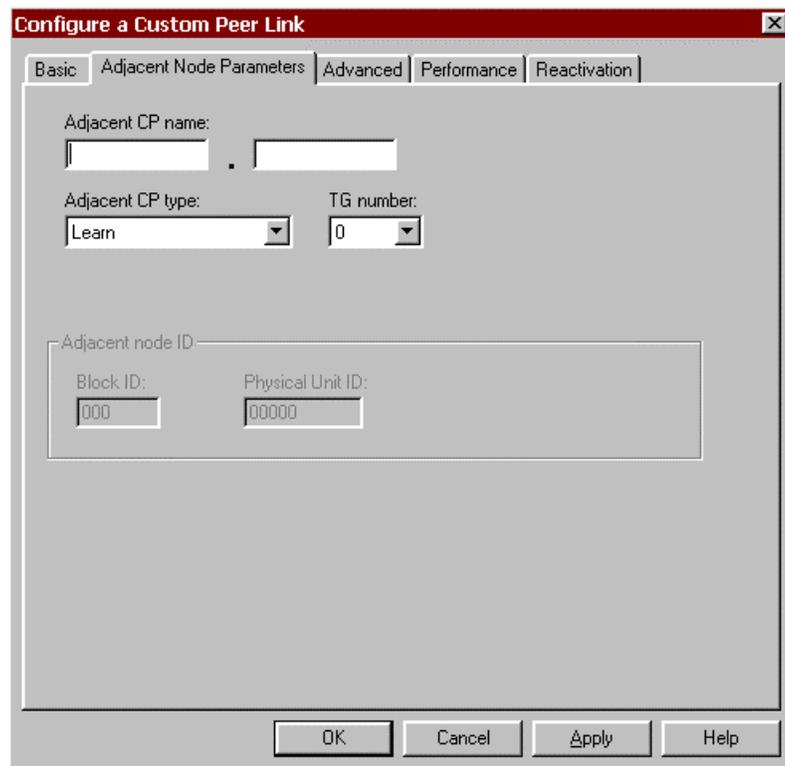

Figure 10-27. Configure a Custom Peer Link - Adjacent Node Parameters
- **Host link name(PU profile name):** A default name will be automatically assigned by the system. You may accept the default, or enter your own name up to eight (8) characters in length.
- **Port name (adapter):** By default the first custom data link adapter defined will be displayed. Select the adapter you wish to associate with this Host Link (PU) from the pull-down list. Keep in mind that the ESCON adapter associates the PU to the sub-channel address used to communicate with the host.
3. Click the **Adjacent Node Parameters** tab (Figure 10-27) to continue.